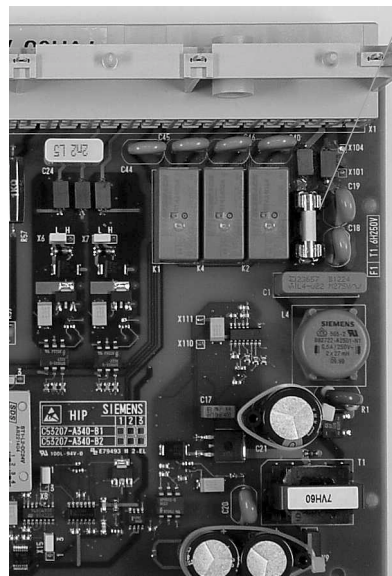

Figure 5-1 Mini-Fuse of the Power Supply
- Fuse in the power supply has not blown. The location of the fuse is shown in Figure 5-1. If the fuse needs to be replaced, see Subsection 5.1.1.
- Select a replacement fuse 5 x 20 mm. Ensure that the rated value, time lag (slow), manufacturer, and code letters are correct (Figure 5-1).
- ❑ Remove blown fuse from the holder (Figure 5-1).